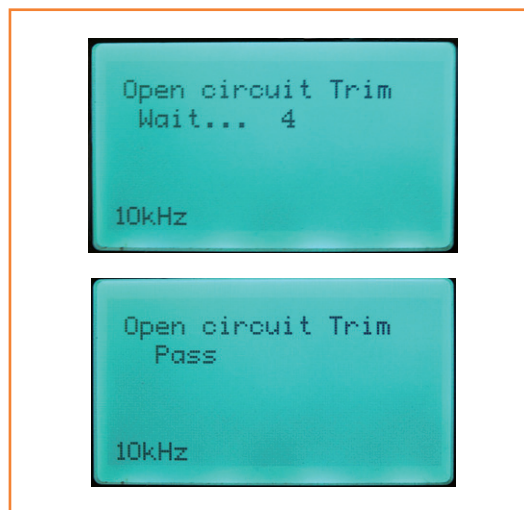

Figure 7.
**Trim:** Pressing and holding this key lets you run the compensation (**OPEN - SHORT**) (**Figure 7**). Compensations are performed for each frequency. If  $|Z|$  is  $< 10\ \Omega$ , the **SHORT** calibration is performed.